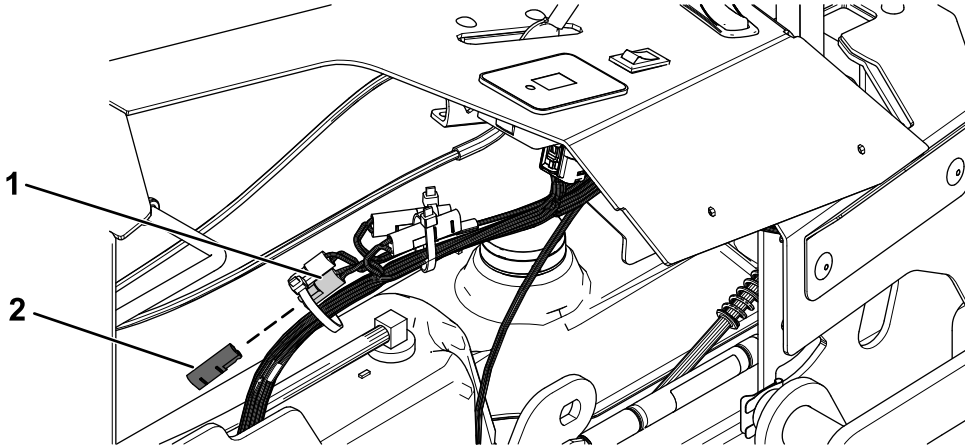

Figure 7
1. Remove the cap from the auxiliary connector on the machine wire harness (Figure 7).
5. Connect the light kit wire harness to the auxiliary connector on the machine wire harness (Figure 7).